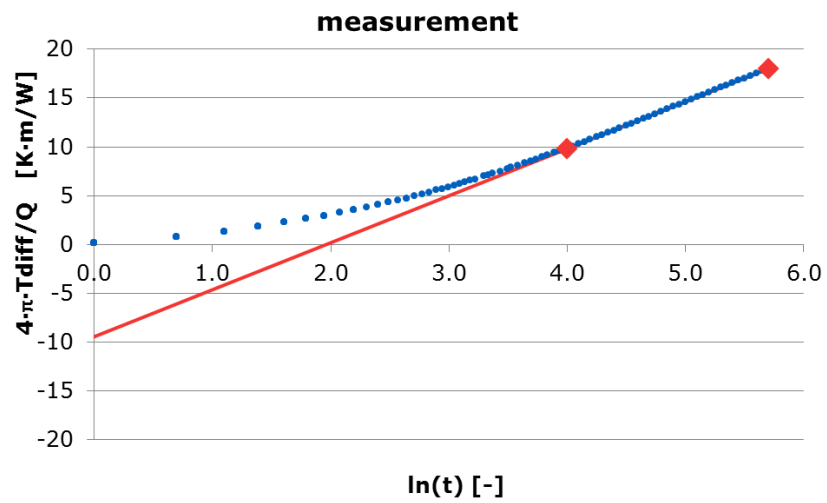

Figure 8.3.2 Measurement graph with data interval $\ln(t_{begin})=4.0$ and $\ln(t_{begin})=5.7$.
4. Input the time interval to be used in cell C4 and C5. The red diamond in the measurement graph indicate the start and end of the interval visually. The linear portion of the graph should be used. For an example see figure 8.3.2